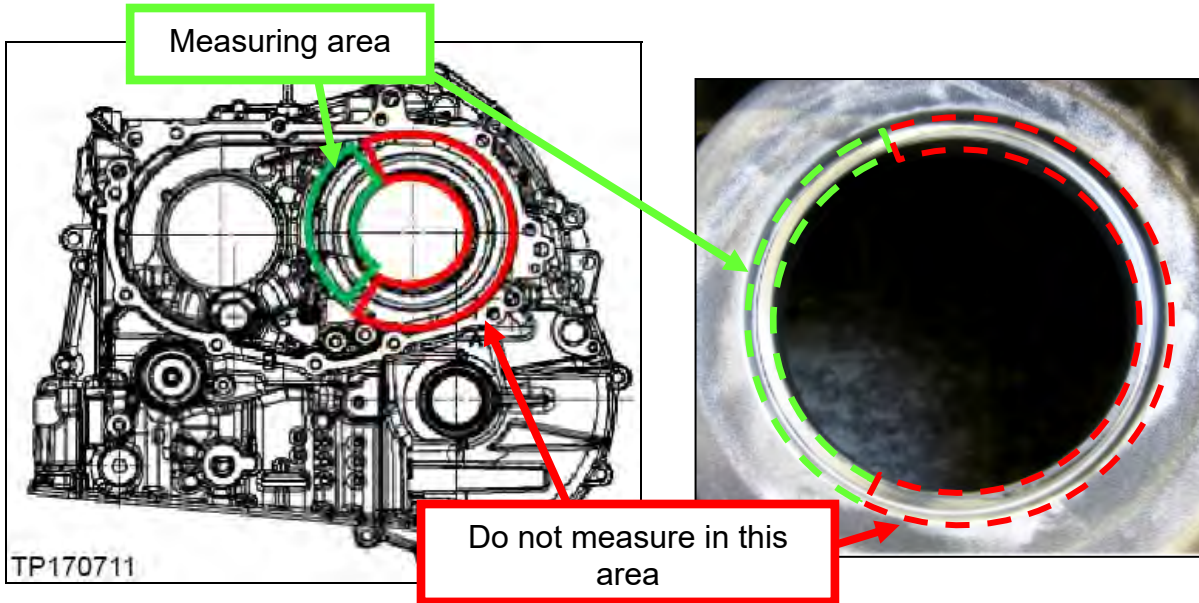

Figure 4M
- Refer to the Figures 4M and 5M and then proceed to page 60.
**IMPORTANT:** Please refer to Figure 4M for acceptable areas (highlighted in green) to measure “**Y**”.